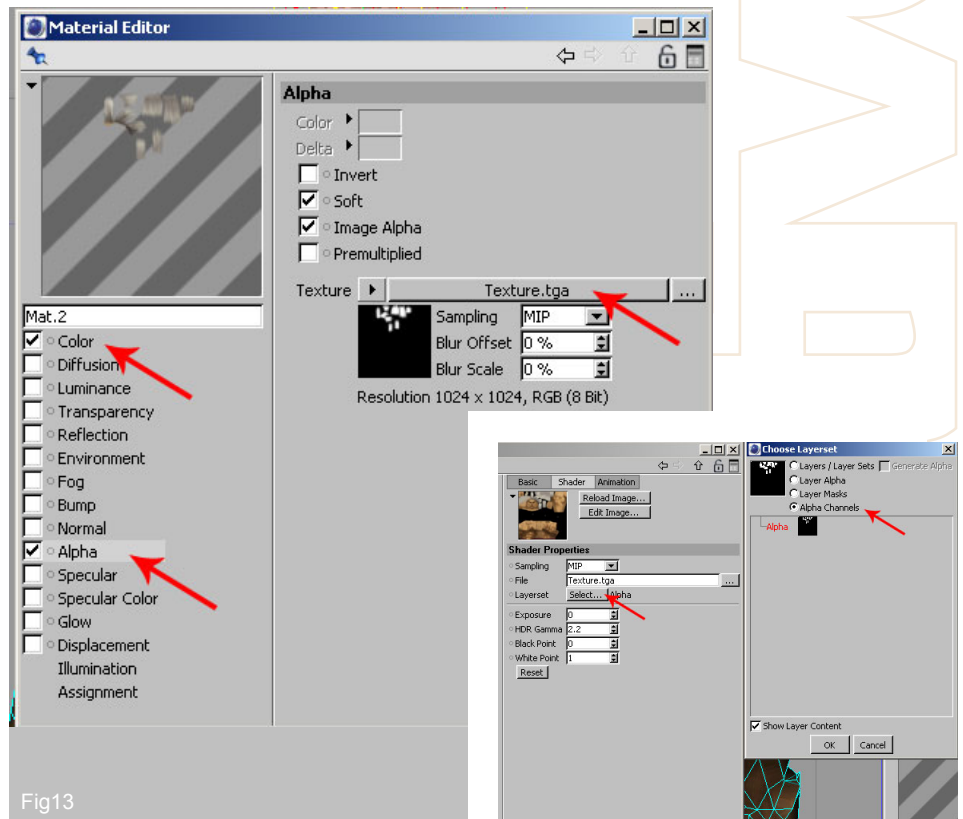

Fig13
13. Copy hair alpha into the Alpha 1 and then save out the image as a 32 bit tga which will retain the alpha channel. In Cinema4D, create a new material (name it "hair") and then load the tga into Colour Channel and into Alpha Channel, as seen in Fig13. In the Alpha channel, click on the Select slot (left of figure) to choose the Layerset, as shown on the right of the figure. The last thing to do is to apply the new material to the hair, so proceed in this way. Select all the poly's that make up the body and save this selection. Go now in the texture tag of the body and, in the Selection slot, type the name of the selection of the body. In this way the texture will be applied only on the body. Now assign the hair material to the object. You'll notice that white areas should remain visible and the surrounding black areas should become invisible.